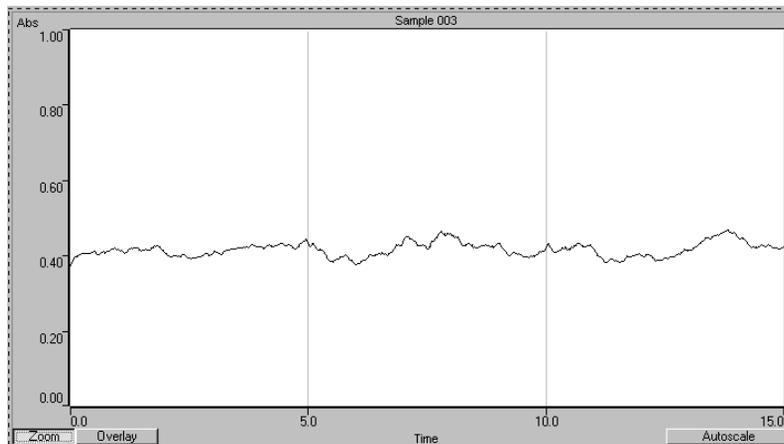

Figure 6 A normal pulsating signal
- Check the signal graphics. A signal that shows some pulsations (as shown in Figure 6, Page 67) is normal at high dilutions. Increase the integration time or switch to PROMT mode with a long read time to improve precision.
- Check the signal graphics. It is normal to see a signal that shows some pulsation at high dilutions, as shown in Figure 6. Increase the integration time. If using the PROMT measurement mode, reduce the **Precision** and increase the **Read time**.